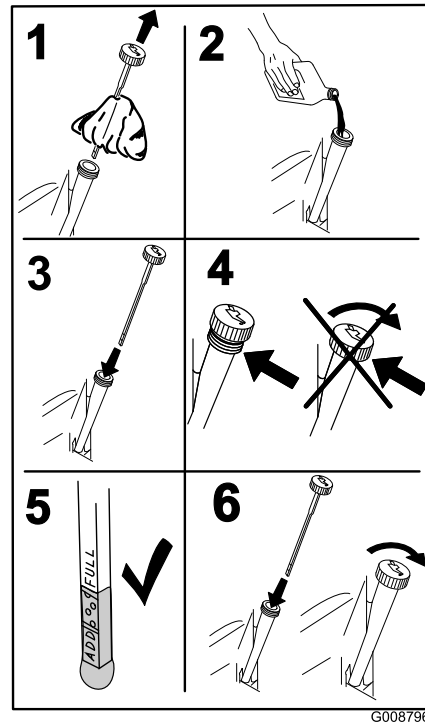

Figure 34
4. Slowly pour approximately 80% of the specified oil into the filler tube and slowly add the additional oil to bring it to the **Full** mark (Figure 34).